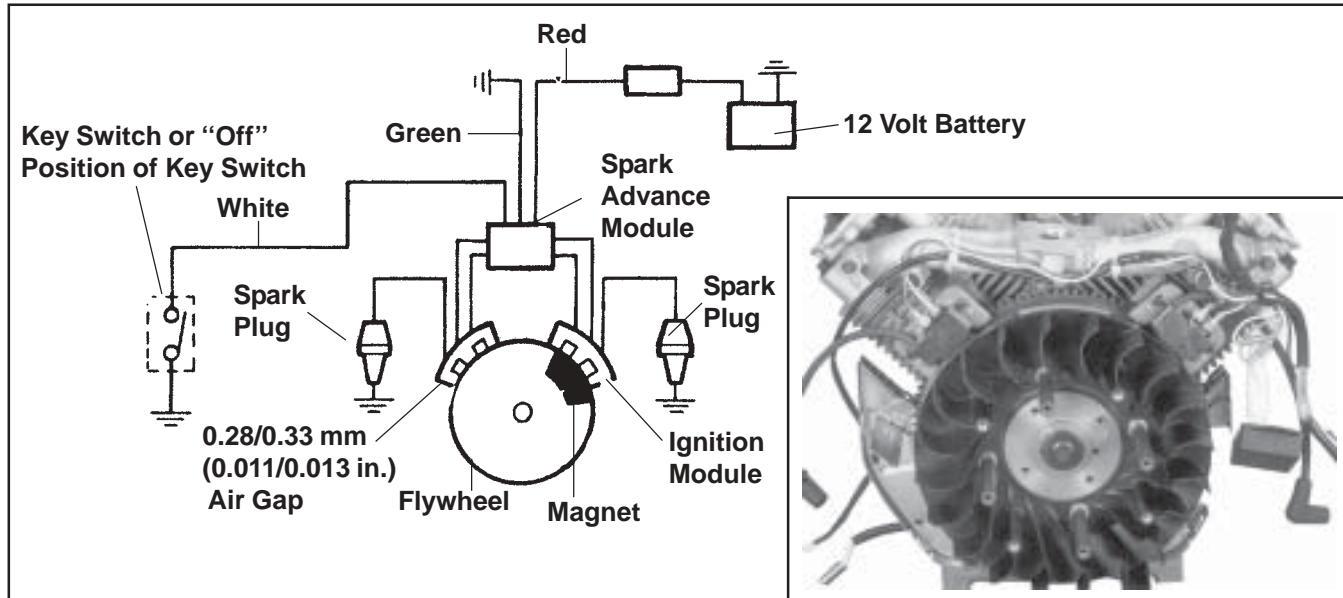

Figure 8-6. Capacitive Discharge Ignition System with Spark Advance.
SMART-SPARK_™ equipped engines utilize an electronic capacitive discharge ignition system with electronic spark advance. A typical application (Figure 8-6) consists of the following components:
- Two electronic capacitive discharge ignition modules which mount on the engine crankcase (Figure 8-6).